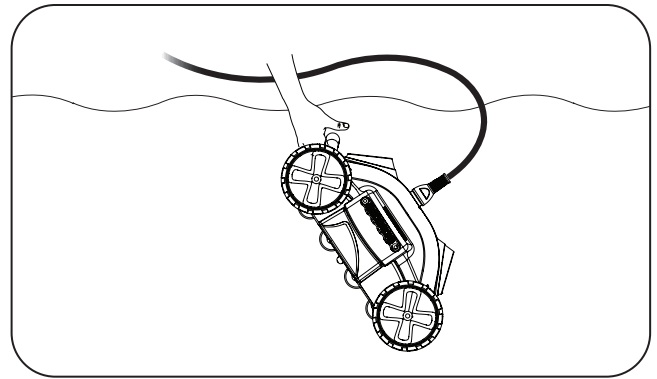

Figure 12. Lift Cleaner Using the Handle
3. Use the handle to lift the cleaner from the water (Figure 12). Never lift the cleaner out of the pool by the floating cable.